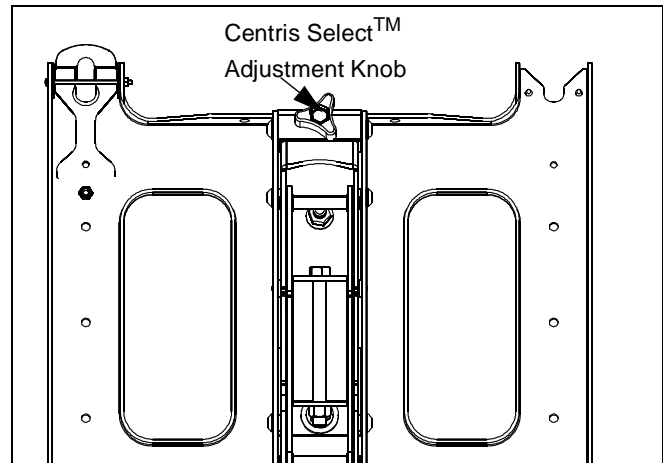

Figure 10
2. Adjust the Centris Select™ knob until desired vertical tilt tension is obtained. (See figure 10)